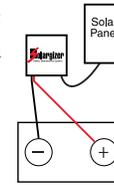

Fig. 1
- 3 Screw a hex nut onto the bolt & tighten it until it secures the lug & washer between it & the clamp nut. This will allow Solargizer to send a pulsating dc current through the terminal & into the battery which will eliminate the buildup of sulfates on the lead plates. (see Fig. 1.)